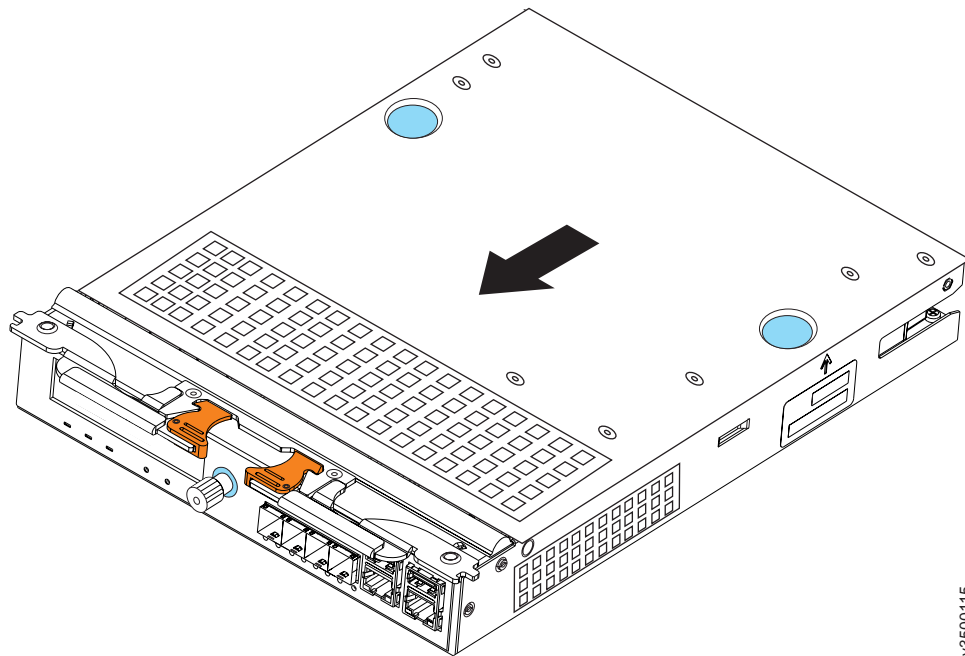

Figure 21. Reinstalling the canister cover
1. Reinstall the cover as shown in Figure 21.